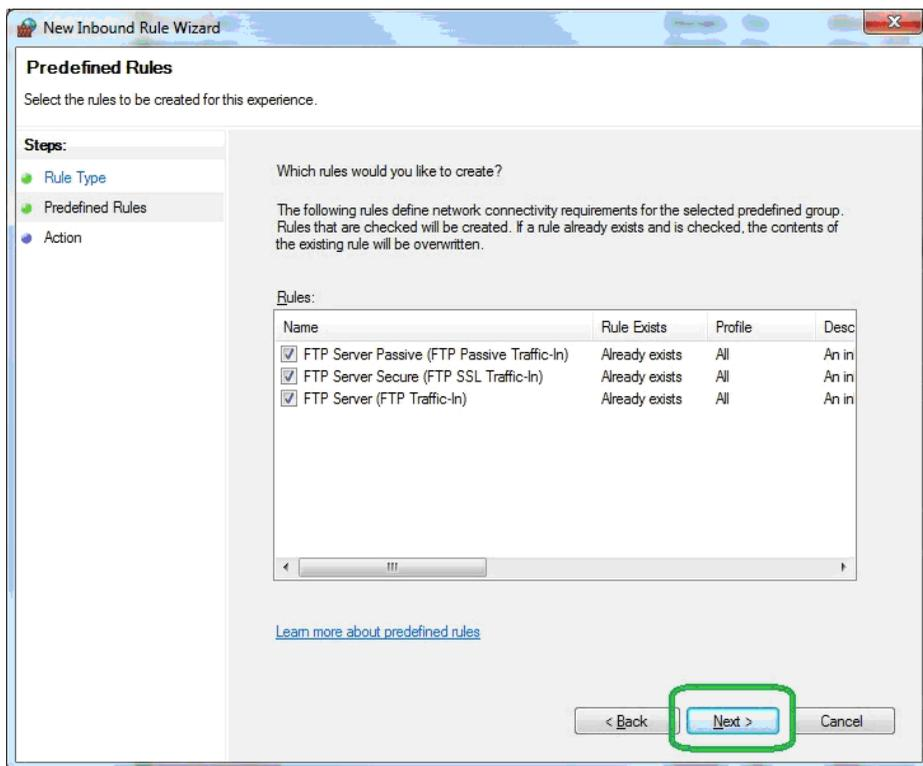

FIGURE 2-39 Windows® Firewall - New Inbound Rule Wizard - FTP Rules
Step 9 On the **Predefined Rules** page, select **FTP Server Passive (FTP Passive Traffic-In)**, as shown in FIGURE 2-39.
Step 10 Select **FTP Server Secure (FTP SSL Traffic-In)**, as shown in FIGURE 2-39.
Step 11 Select **FTP Server (FTP Traffic-In)**, as shown in FIGURE 2-39.